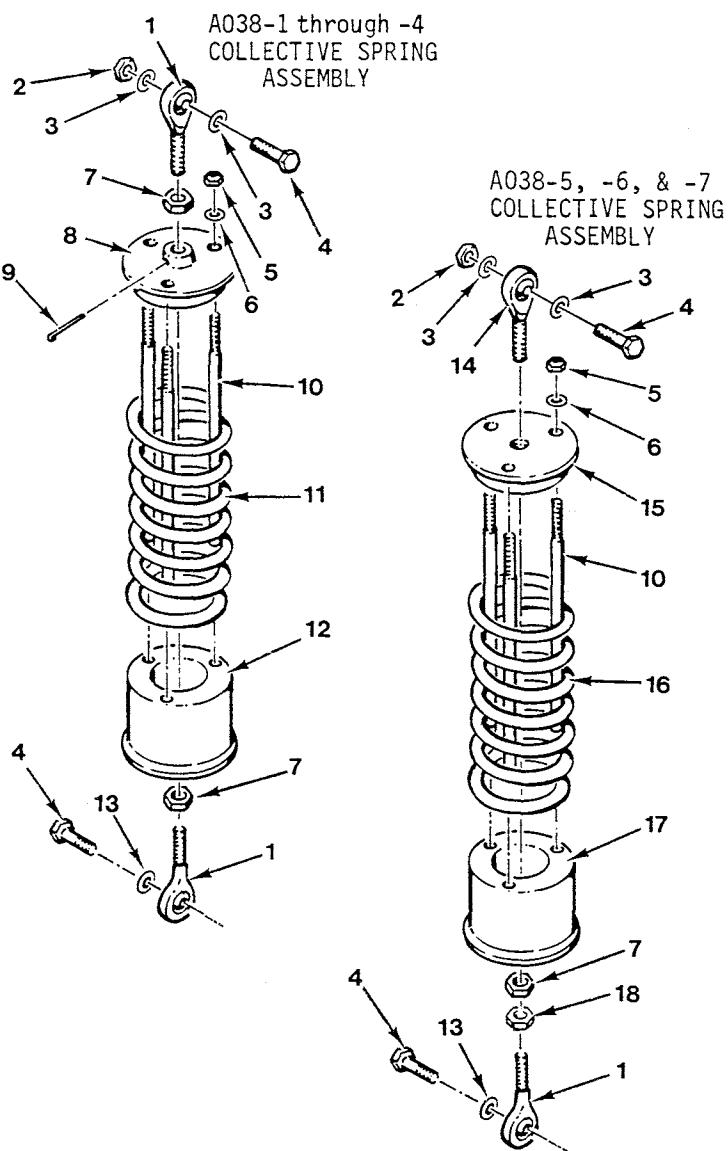

FIGURE 8-8 COLLECTIVE SPRING ASSEMBLY
8.220 Collective Spring Assembly (See Figure 8-8)